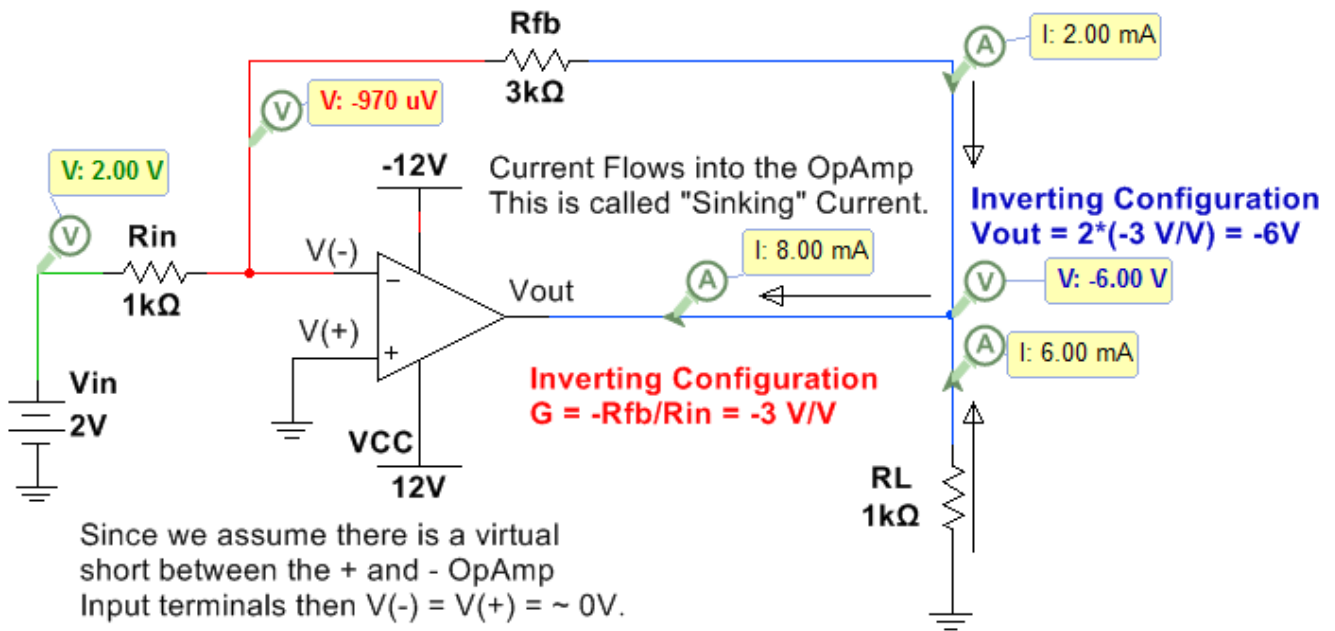
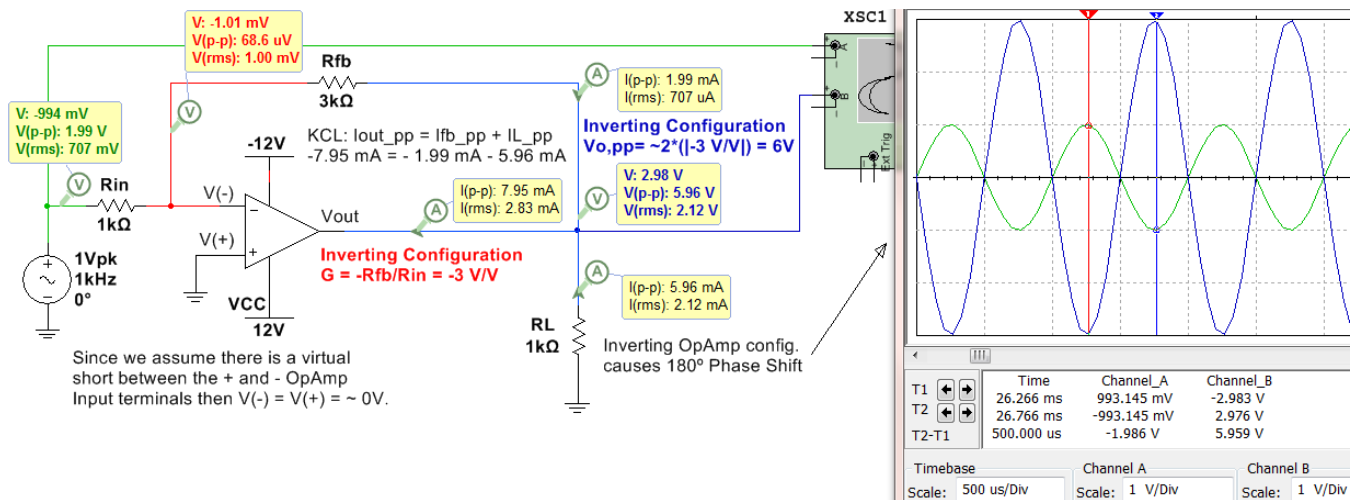
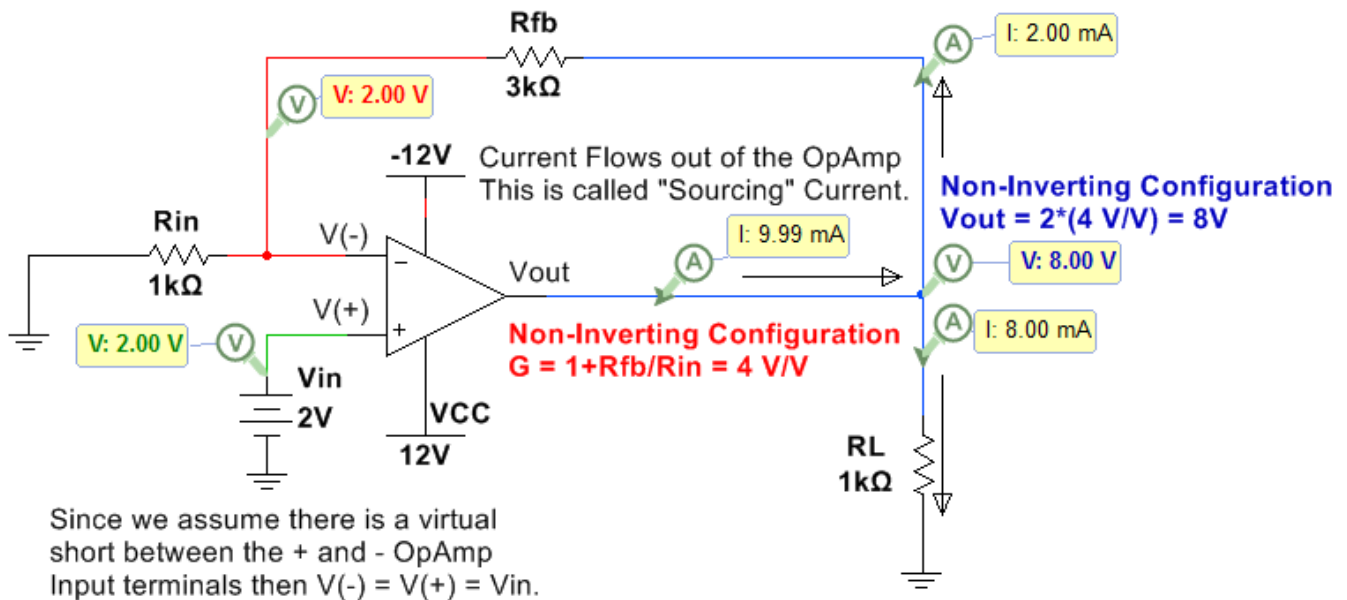
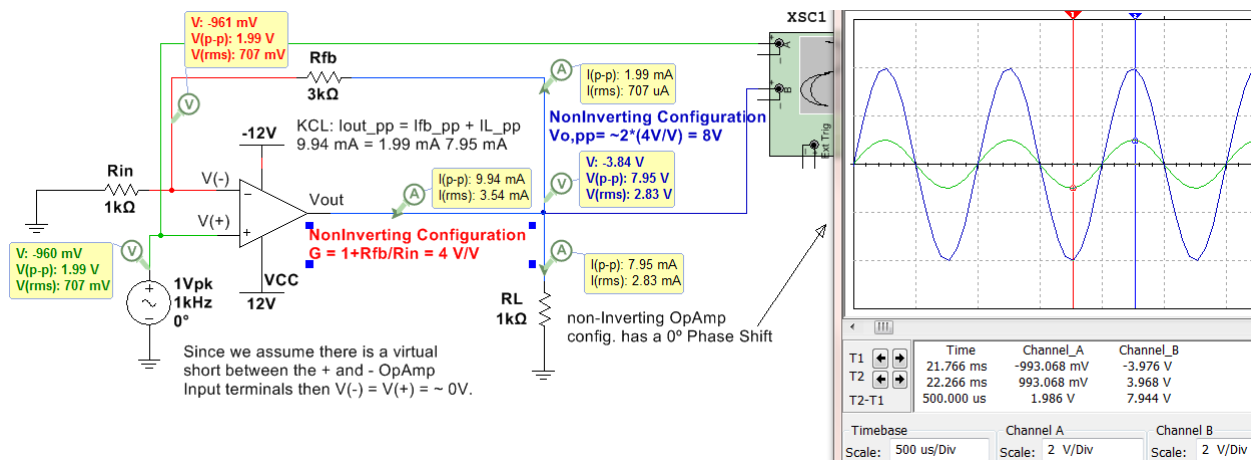

Figure 7.13: Inverting Configuration with a DC input.
Figure 7.14: Inverting Configuration with an AC input.
Figure 7.15: Non-Inverting Configuration with a DC input.
Figure 7.16: Non-Inverting Configuration with an AC input.
- **Inverting Configuration:** If the input voltage is connected the in input resistance (R_{in}) that is connected to the inverting (-) terminal of the OpAmp it is called the “inverting configuration”. An example with a DC input is shown in Figure 7.13 and an example with an AC signal is shown in Figure 7.14. The closed loop gain equations for an inverting OpAmp are shown in 7.2 and 7.3.
- **Non-Inverting Configuration:** If the input voltage is connected to the in non-inverting input terminal (+) of the OpAmp it is called the “non-inverting configuration”. An example with a DC input is shown in Figure 7.15 and an example with an AC signal is shown in Figure 7.16.
The inverting OpAmp configuration is shown in Figure 7.13 (DC input) and Figure 7.14 (AC input).
In the circuit below the instantaneous voltage values (top numbers) are also shown so you can see that at that moment in time the circuit behaves exactly like the DC circuit in Figure 7.13 ($V_{out} = -.994V \cdot (-3 V/V) = 2.98 V$).
Since the virtual OpAmp in Figure 7.14 has a fixed A_0 of 200,000 V/V regardless of the input frequency the ideal gain in Equation 7.2 matched closely with the Multisim measurements. If an actual OpAmp were used (like the LM324) the gain would be reduced due to the increase in frequency that results in a finite A_0 . For this same reason, Multisim also matches the Non-inverting OpAmp configuration circuit with an AC input in Figure 7.16.
The non-inverting OpAmp configuration is shown in Figure 7.15 (DC input) and Figure 7.16 (AC input).